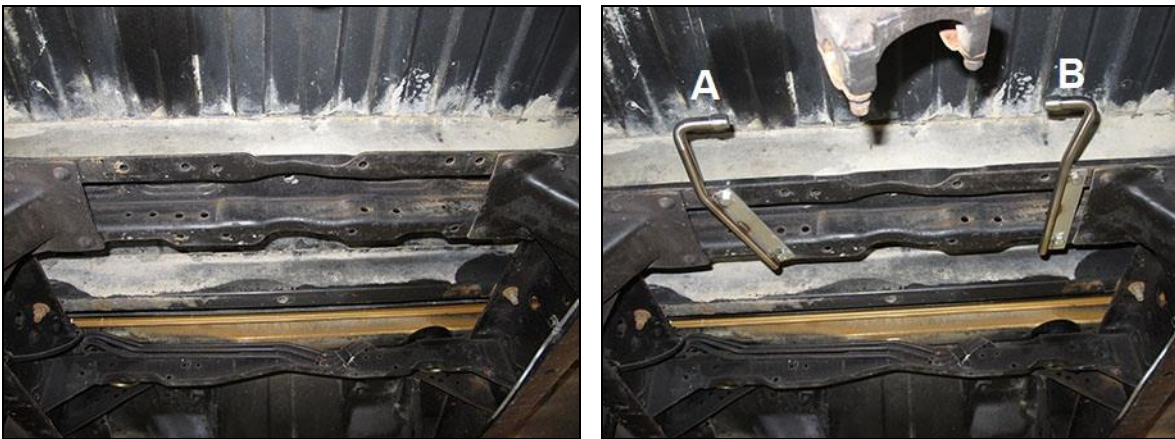

Figure 1
7. Attach the left and right side aft-muffler hanger brackets to the bottom of the frame crossmember that spans between the front leaf spring perches, as shown in **Figure 1**. Use the included 3/8 x 1” bolts and nuts for this purpose. When correctly installed, the hanger rods will be oriented towards the rear of the vehicle and the barbed ends will point inward towards each other.